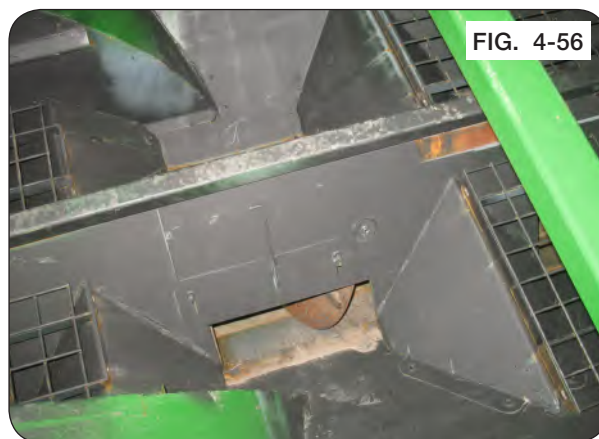

FIG. 4-56
2. Remove the bolts in both middle grates inside the cart. Remove the grates. (Figure 4-56)